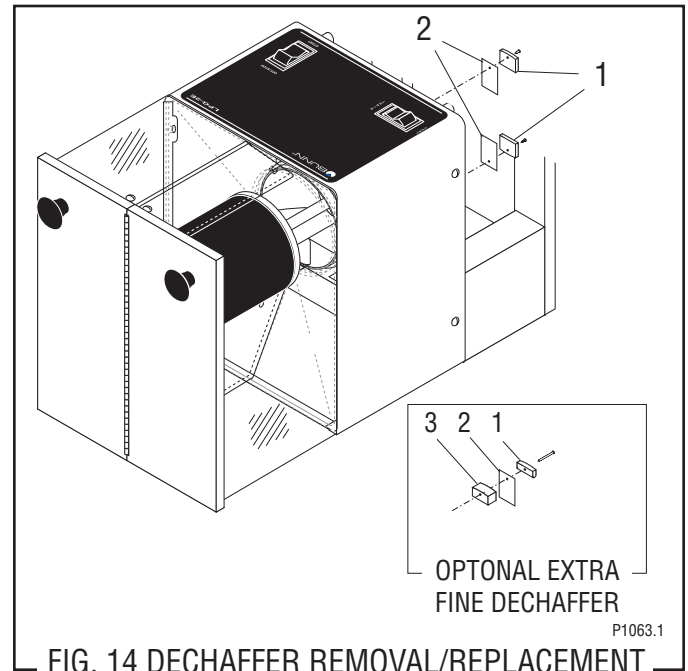

FIG. 14 DECHAFFER REMOVAL/REPLACEMENT
8. Remove spacer plate (3) and set aside for reassembly.
9. Lift solenoid bracket and solenoids (4) over the motor and burr housing assembly (6) and set aside for reassembly.
10. Remove the #8-32 setscrew (5) and set aside for reassembly.
**NOTE:** Refer to Fig. 14 for the disassembly and assembly of the burrs and rotor.
12. Remove the two #10-32 fillister head screw securing burr housing cap (10) to the burr housing.
13. Remove cap, burr adjusting screw, decaffing plate and decaffer support (10) as an assembly. Set aside for reassembly.
14. Remove load disc (11) and set aside for reassembly.
15. Slide rotor (12), lower burr (13) and spring (14) as an assembly off the motor shaft, set aside for reassembly.
16. Remove burr housing divider (8) and set aside for reassembly.
**NOTE:** Inspect rotor. If rotor needs to be replaced, remove the two #10-32 binding head screws securing lower burr (13) to the rotor and remove burr. Install lower burr (13) on new rotor (12) using two #10-32 binding head screws.
17. Slide spring retaining bushing (15) off the motor shaft and set aside for reassembly.
18. Remove the two #10-32 binding head screws securing the upper burr (16) to the motor and housing assembly (17).
19. Remove the upper burr (16) and set aside for reassembly.
#### Removal and Replacement: Refer to Fig. 14